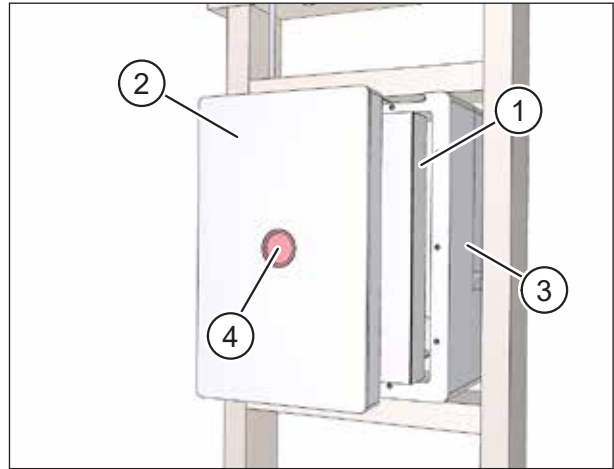

Fig. 23: Inserting the cardboard insert and plaster cover
- ▶ Insert the cardboard insert (item 1 in Fig. 23) into the wall box (item 3 in Fig. 23) as far as it will go.
- ▶ Insert the plaster cover (item 2 in Fig. 23) into the wall box (item 3 in Fig. 23) as far as it will go.
- ▶ Check that the red signal cover (item 4 in Fig. 23) is seated in the plaster cover.